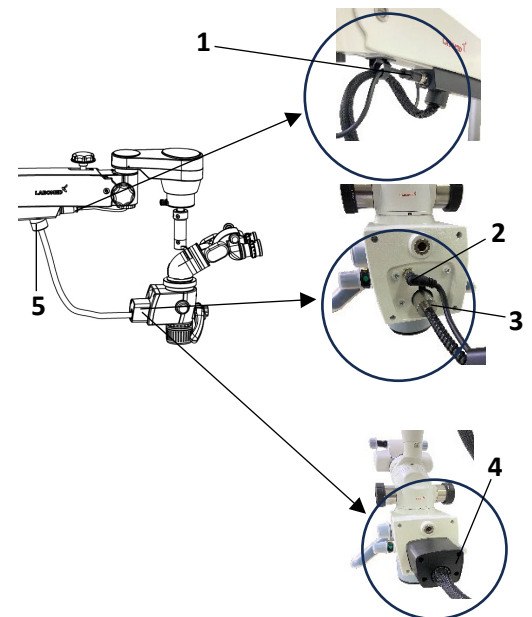

Fig. 34
- b. A wire mesh for Cable routing is Permanently fixed to Suspension arm at point (5). Ref. Fig. 34
- c. Fold and gather wire mesh with back cover with and insert the power socket (2) for illumination control. Then insert the Fibre optic cable into the light guide (3). Ref. Fig. 34
- d. Now Fix the back cover (4) with screws. Then connect the 4pin socket to the inlet (1) for powering up the ABA (Auto balancing Arm) Electromagnetic clutch. Ref. fig. 34